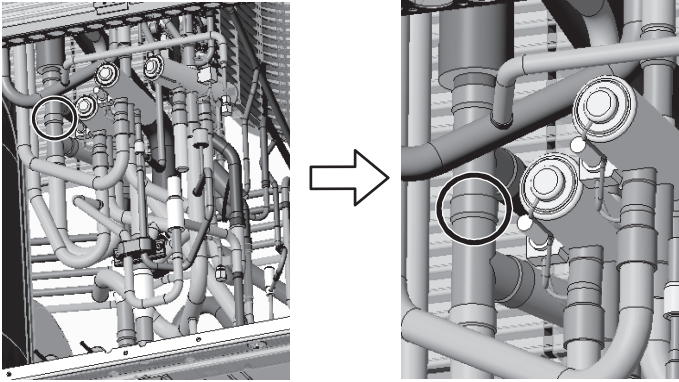

Figure 4
(3) Remove the braze from the pipe where circled in the figure. (See Figure 4.)